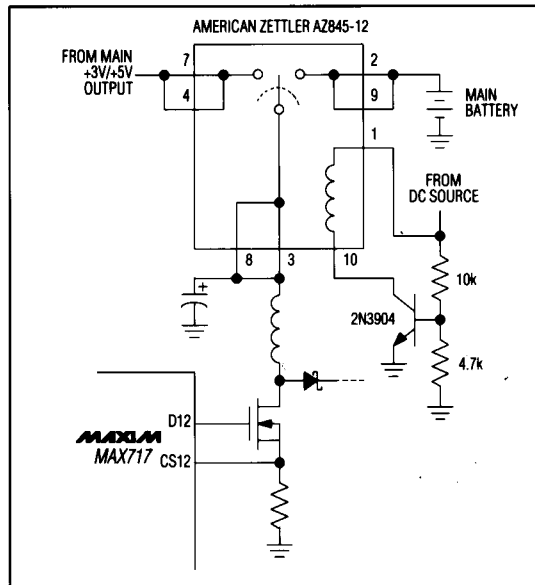
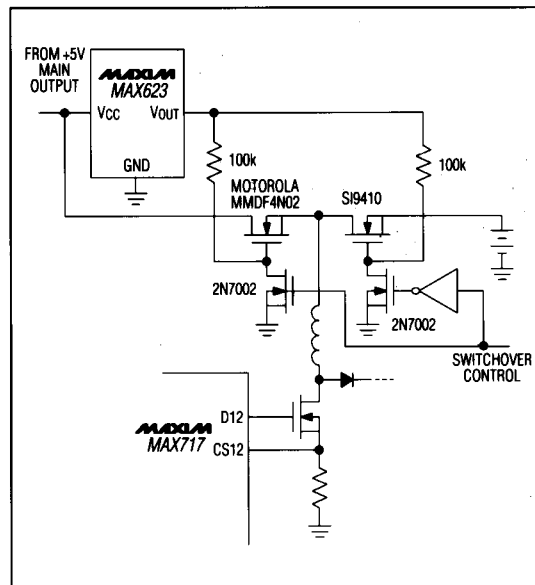

Figure 4. SMT Relay Powers Auxiliary +12V Supply
Figure 5. High-Side MOSFET Switch Powers Auxiliary +12V Supply
2) Power the auxiliary supply from the main output in linear-regulator mode, but power it from the battery when the DC source is absent. This provides the best overall efficiency, but requires a relay or MOSFET switch to make the switchover (Figure 4). In most applications, the battery voltage is too low to use P-channel devices for the switchover, but a high-side supply, such as the MAX623 charge-pump regulator (Figure 5), works well with N-channel switches. Switchover can also be accomplished with special AC-DC adapter plugs and jacks with built-in mechanical switches.